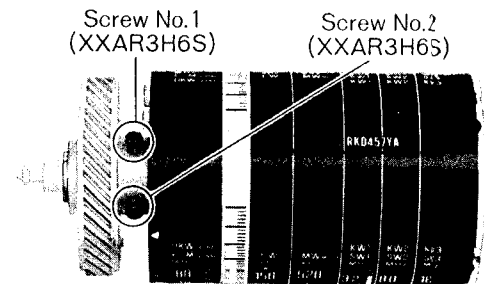

Fig. 8
1. Loosen the two (2) screws (nos. 1 & 2) for the dial scale gear, as shown in fig. 8.